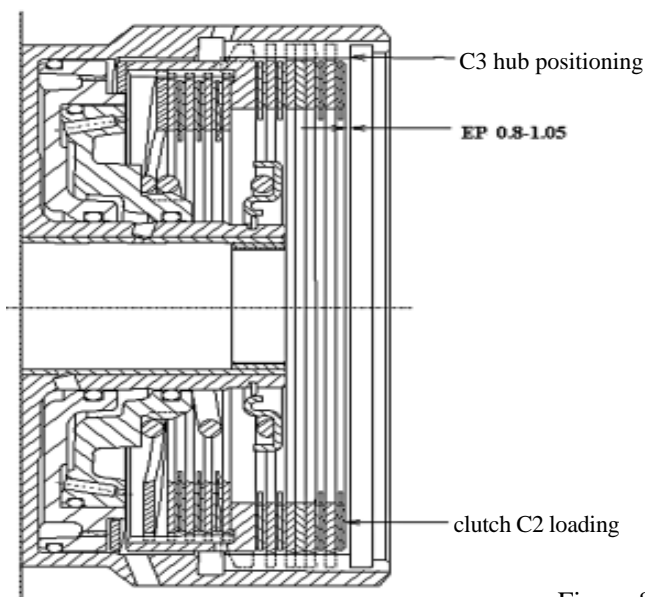

Figure 8.26 C2clutch assembly
- r. Use the tool to test the clutch assembly; ensure the weight is in the acceptable range. Refer to Figure 8.26.